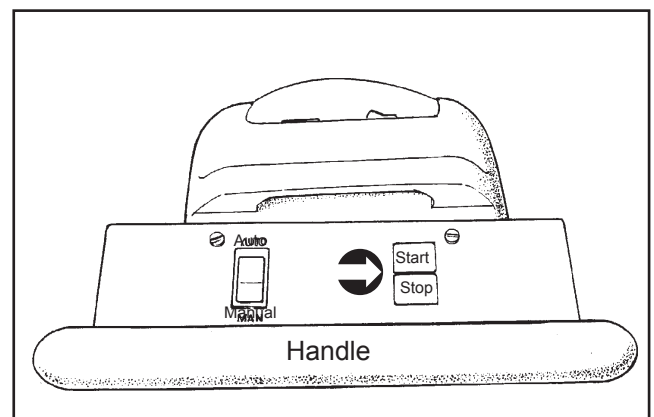

Figure 17
5. Stand behind the handle, place the rocker switch to "Automatic" and press the green start switch. To stop the machine, press the red stop button. (See Figure 17)